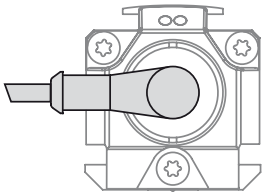

Fig. 8-16: Connector BKS-S116-PU- \_ \_ , outlet
**i** The outlet direction and the pin assignment for the BKS-S233-PU-\_\_ is the same as that for BKS-S116-PU-\_\_ (see Fig. 8-16 or Tab. 8-1).